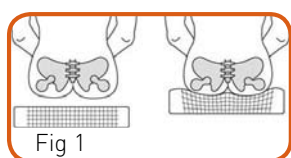

Fig 1
- conform to the shape of the client to a varying degree dependant on the type of material (Fig 1 and 2)
Foams, viscos and gels are compressible solids which do not displace (fig 1). This creates a “counteractive” response to the client’s horizontal movements which may result in friction and shear in pressure sensitive tissues.